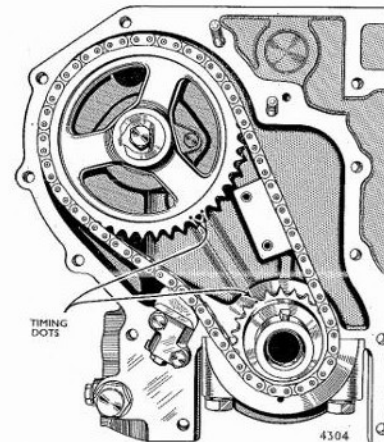

Fig. B.96. Correct positioning of the timing wheel marks, symmetrically about a line through the timing wheel centres
3. Loop the chain over the crankshaft timing wheel and then enter the camshaft timing wheel into the chain so that the marked tooth on the crankshaft timing wheel is positioned between the two marked teeth on the camshaft timing wheel, and the timing dots fall symmetrically about a line struck through the centres of the crankshaft and camshaft spigots (see Fig. B.96), ensuring that any slack in the timing chain is on the left hand (non-drive) side of the timing wheels when viewed from the front of the engine, i.e., in the position occupied by the chain tensioner (see Fig. B.96).
and camshaft spigots (see Fig. B.96), ensuring that any slack in the timing chain is on the left hand (non-drive) side of the timing wheels, when viewed from the front of the engine, i.e., in the position occupied by the chain tensioner.